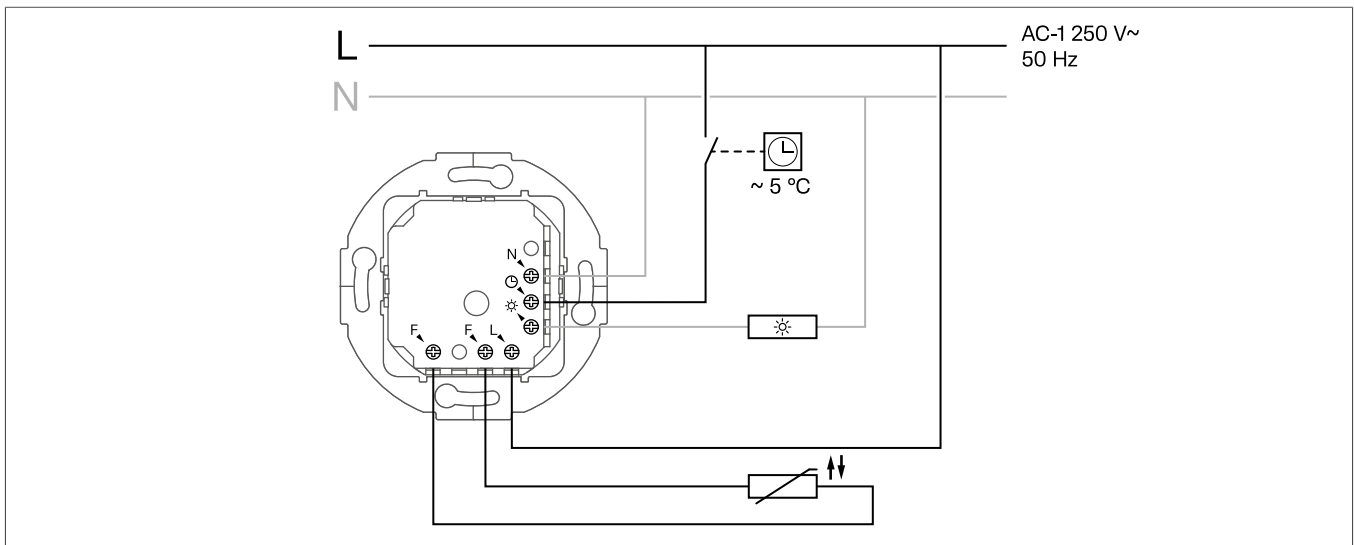

Fig. 3: Connection diagram
- 1 Connect the controller (1) according to the connection diagram (Fig. 3).